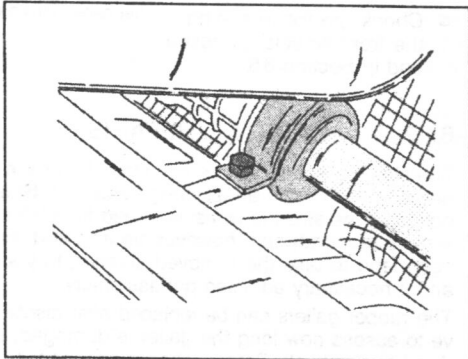

Fig. 6.4. — The steering is secured with mounting clamps on both sides. A similar attachment is on the other side.
- Remove the two mounting clamps for the steering unit from below the vehicle. One clamp is situated at the position shown in Fig. 6.4. The second clamp is fitted to the opposite side of the steering box.